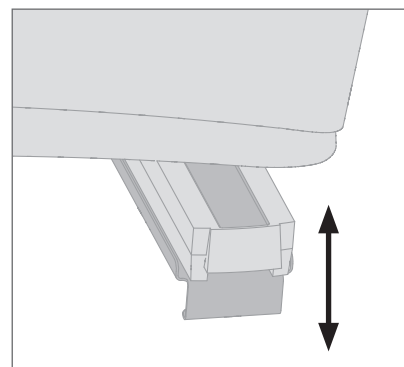

Figure 11. Pulling down battery compartment
1. Pull down on the battery compartment handle to gain access to the battery (see figure 11).
1. Ensure that the battery compartment is in its lowered position (see figure 11).